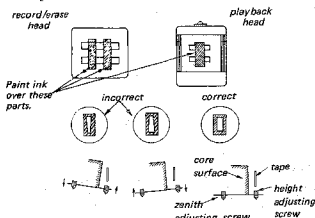

Fig. 3-24. Head zenith and height adjustment
3. Paint the head core with black ink as shown in Fig. 3-24.
- After the ink dried, run the tape in the FWD direction for 20 to 30 seconds. Watch the ink on the core fading away. When the same wide amount of the faded away part cannot be obtained at every point, turn the zenith and height adjusting screws in the direction shown by the arrows. See Fig. 3-24.
- Paint the record/erase head cores with ink as shown in Fig. 3-24.
- After the ink dried, run the tape in the FWD direction for 20 to 30 seconds. Watch the ink on the core fading away. When the ink does not fade away in the same wide amount at every point, turn the zenith and height adjusting screws in the direction shown by the arrows. See Fig. 3-24. Repeat this step several times until the satisfied result is obtained. After adjustment clean the cores with a soft cloth dampened with denatured alcohol.